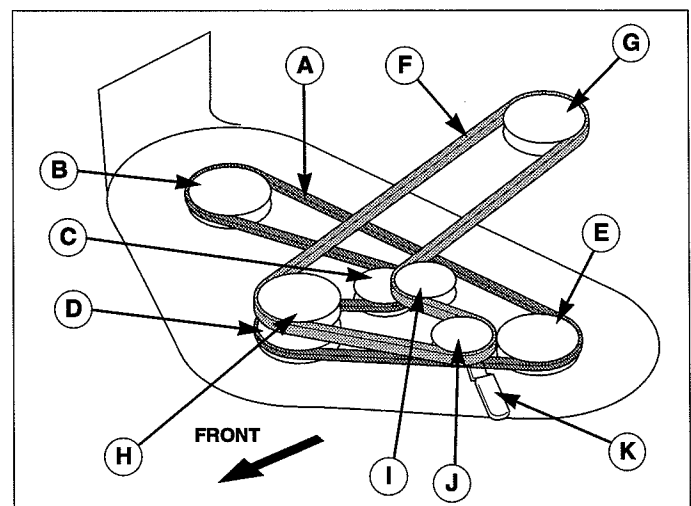

Figure 31. 44" Mower & Mower PTO Belt Routing
4. Install the new belt as shown in Figure 31.
9. Remove and replace the old belt (see Figure 31).